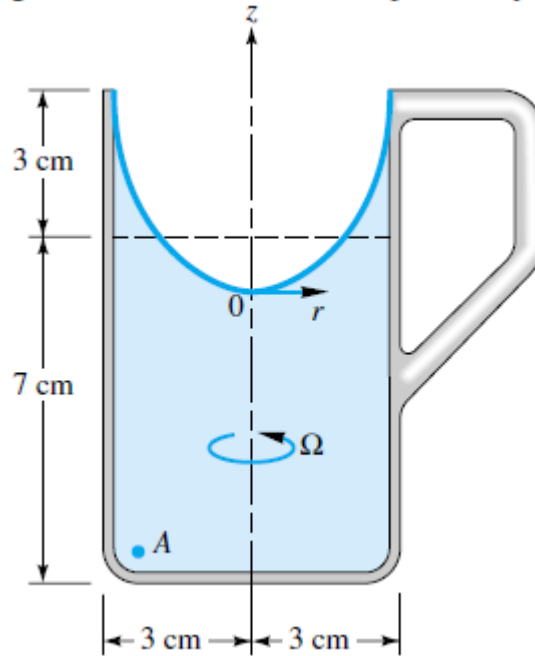

Figure 5
- b) The coffee cup in figure 5 is placed on a turntable, and rotated about its central axis until a rigid-body mode occurs. The cup is initially filled with water up to a height of 7 cm. Find (a) the angular velocity which will cause the coffee to just reach the lip of the cup and (b) the gage pressure at point A for this condition.
To compute the pressure, it is convenient to put the origin of coordinates r and z at the bottom of the free-surface depression, as shown in Fig.5. The gage pressure here is $p_0=0$, and point A is at $(r, z) = (3 \text{ cm}, -4 \text{ cm})$. We can then evaluate